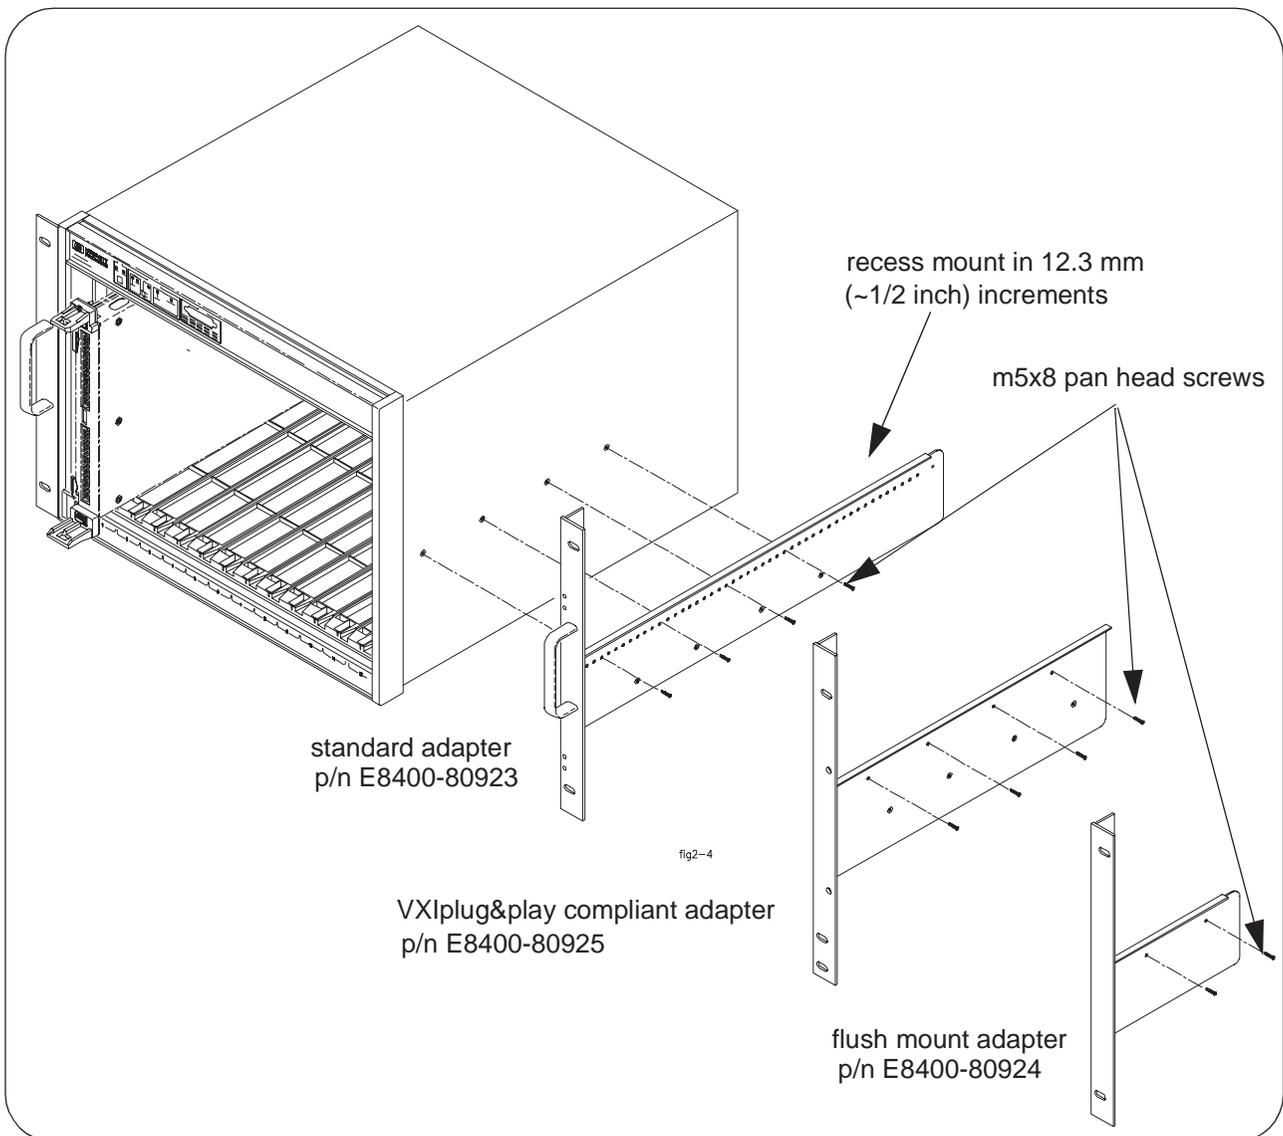

Figure 2-4. Attaching the Rack Mount Adapter to the Mainframe.
5. Attach the rack mount adapters to the mainframe using the m5x8 pan head screws provided. To mount the mainframe flush with the rack front, begin with the 3rd hole from the front of the adapter (Figure 2-4).
The rack mount adapters for the VXI compliant and flush mount kits are also shown in Figure 2-4.